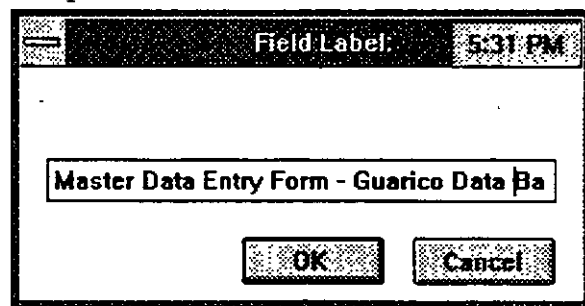

Figure 3-8
2.1. Click on **New Field**. Select **Add Header**. Type Master Data Entry Form - Guarico Data Base into the **Field Label** dialogue box. The display is as shown in Figure 3-8. Select **OK**. The header, which is now an object, is placed on the form. You will see that this